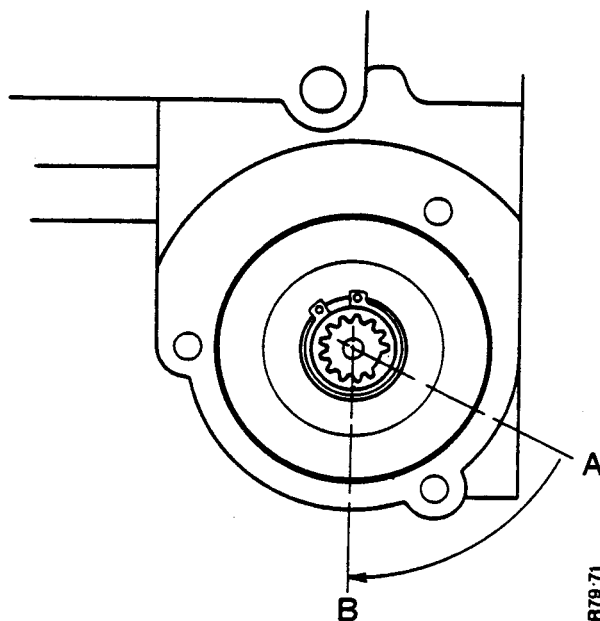

FIGURE 21 INSTALLING THE FUEL INJECTION PUMP QUILL SHAFT
1. Before installing a fuel injection pump, make sure that the quill shaft is in the correct position. See Figure 21. If necessary, turn the engine to the No. 1 SP position as shown in Operation 2, 3 and 4, Removing.
Installing: (See Figure 21).
† FIGURE 21 INSTALLING THE FUEL INJECTION PUMP